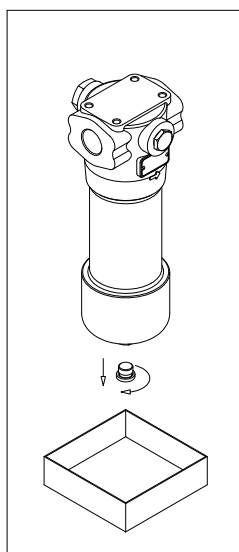

fig. 1
- (Fig. 1) Unscrew the drain plug after placing a vessel to collect the operating fluid